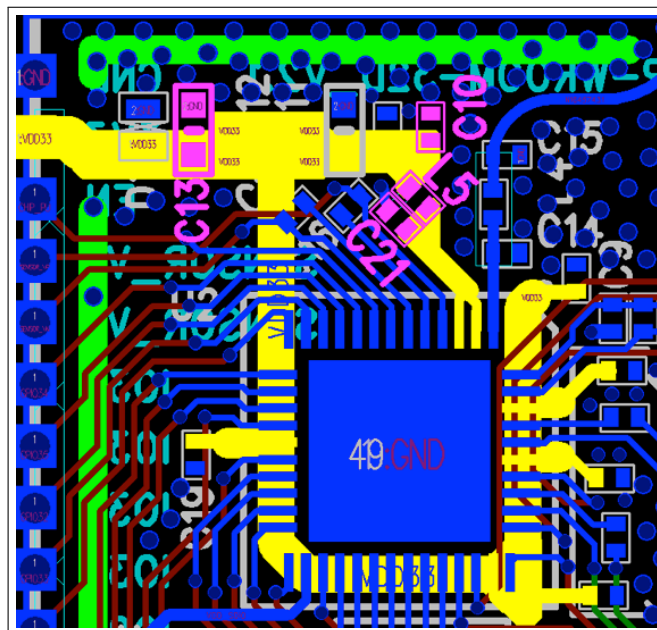

Figure 18: ESP32 Power Traces in a Four-layer PCB Design
- The 3.3 V power traces, highlighted in yellow, are routed as shown in Figure 18. The width of the main power traces should be greater than 25 mil. The width of the power traces for pin3 and pin4 should be at least 20 mil. The width of other power traces should be within the range of 12 ~ 15 mil.
- As shown in Figure 18, an ESD protection diode is placed close to the power port (marked in red circle). A 10  $\mu$ F capacitor is required before the power trace connects the ESP32 chip, to be used in conjunction with a 0.1  $\mu$ F capacitor. Then the power routing is divided into two ways. The power rails of pin3 and pin4 should be routed together to reduce the coupling between different power pins.
- It is required to place C (capacitor) and L (inductor) near the power pins pin3 and pin4. As shown in Figure 18, C13 (10  $\mu$ F) is placed at the entrance of the power, and C10, L5, and C21 are placed near the chip's analog power pins. When possible, add a 0.1  $\mu$ F capacitor to each digital power supply pin. Note that all decoupling capacitors should be placed close to the power pin, and ground vias should be added adjacent to the ground pin for the decoupling capacitors to ensure a short return path.